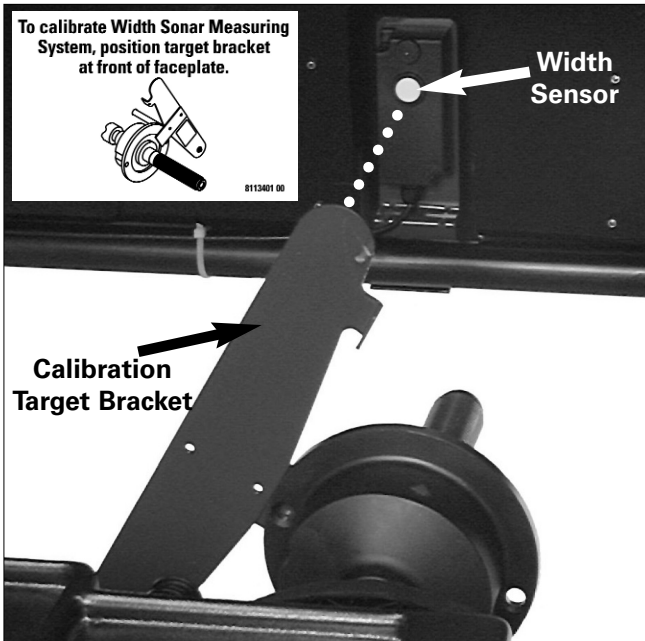

Figure 50 - Target Bracket Positioned for Calibration
**Note:** The Calibration Target Bracket, shown in calibration position in figure 50, is used to allow the width sonar to measure the distance to the balancer faceplate during calibration.